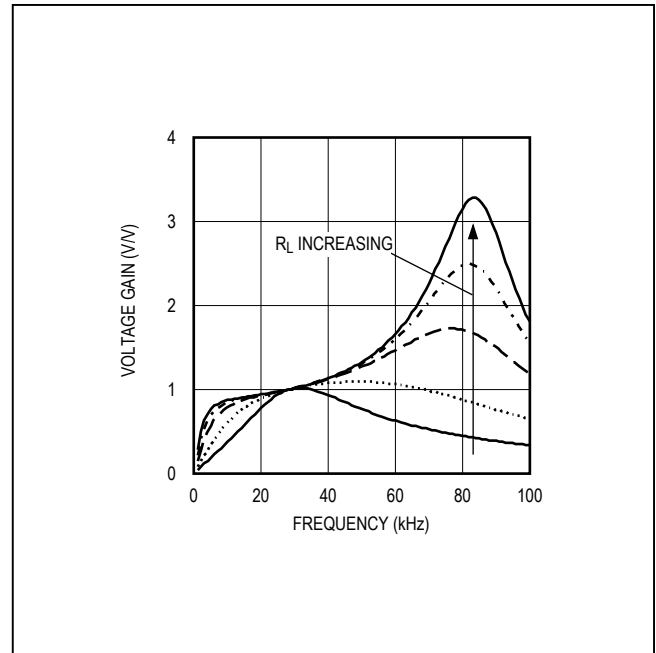

Figure 6. Frequency Response of the Resonant Tank
Figure 6 shows the frequency response of the resonant tank's voltage gain under different load conditions. The primary series capacitor is $1\mu\text{F}$, the secondary parallel capacitor is 15pF , the transformer turns ratio is 1:93, and the secondary leakage inductance is 260mH . Notice that there are two peaks, f_S , and f_P , in the frequency response. The first peak f_S is the series resonant peak determined by the secondary leakage inductance (L) and the series capacitor reflected to the secondary (C'_S):